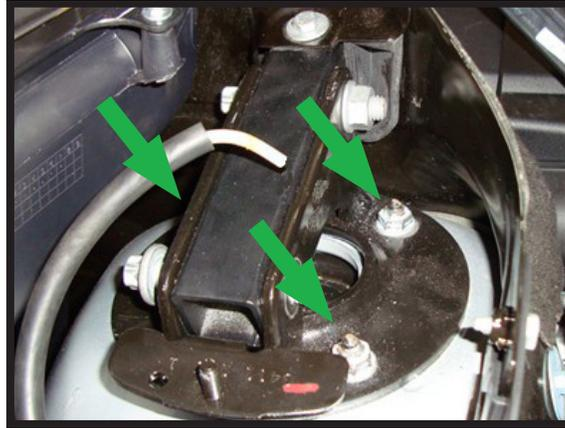

FIGURE 5
8. REMOVE THE THREE (3) UPPER MOUNT FLANGE NUTS. (FIGURE 5)